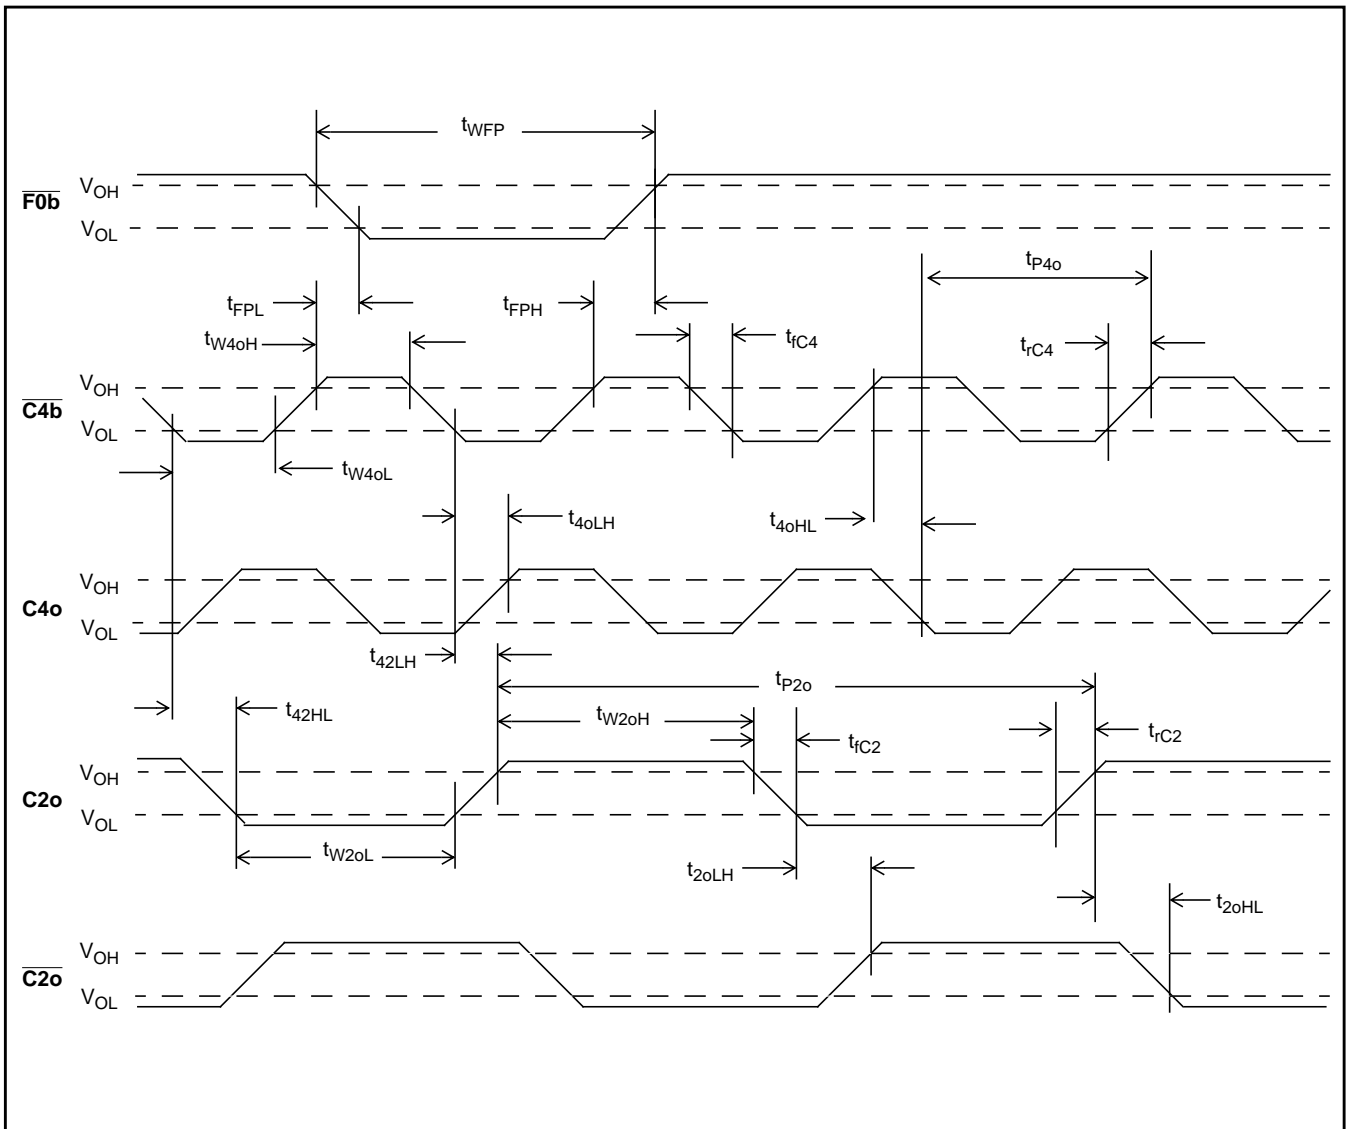

Figure 16 - Timing Information on DPLL #2 Outputs
**AC Electrical Characteristics**†-Voltages are with respect to ground (VSS) unless otherwise stated.(Refer to Figure 16)